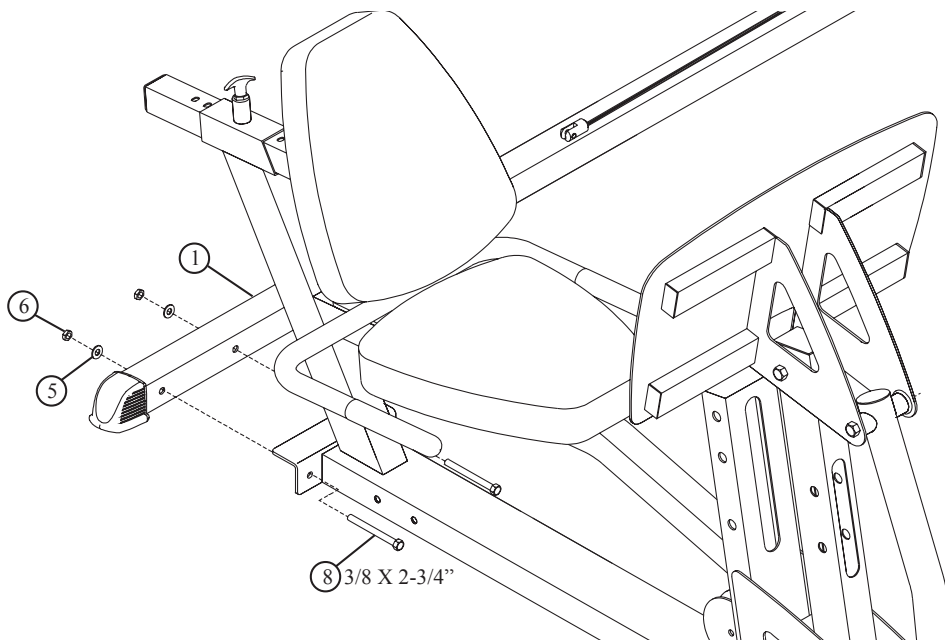

FIGURE 5
- **SECURELY** attach the GLP LEG PRESS to the FRONT LEG (1) using two 3/8" X 2-3/4" BOLTS(8), two 3/8" WASHERS (5), and two 3/8" LOCK NUTS (6). See FIGURE 5.